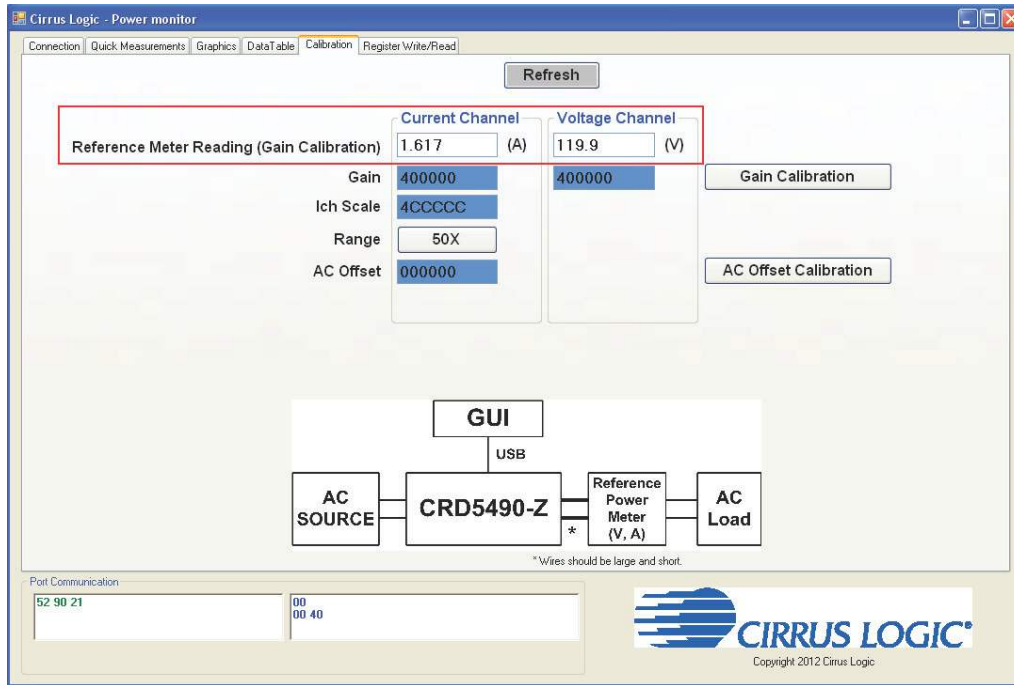

Figure 18. Calibration Tab with Reference Meter Reading
8. **Record** the reference meter measurements after the setup has settled and before calibration is executed. See Figure 18.